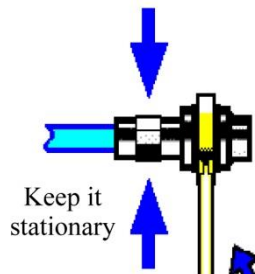

Figure 3.6 Finishing the connection with a torque wrench
Step 3. As shown in Figure 3.6, use a torque wrench to complete the final connection. Pay attention that the torque wrench does not exceed the initial bending point, and an auxiliary wrench can be used to prevent the connector from rotating.